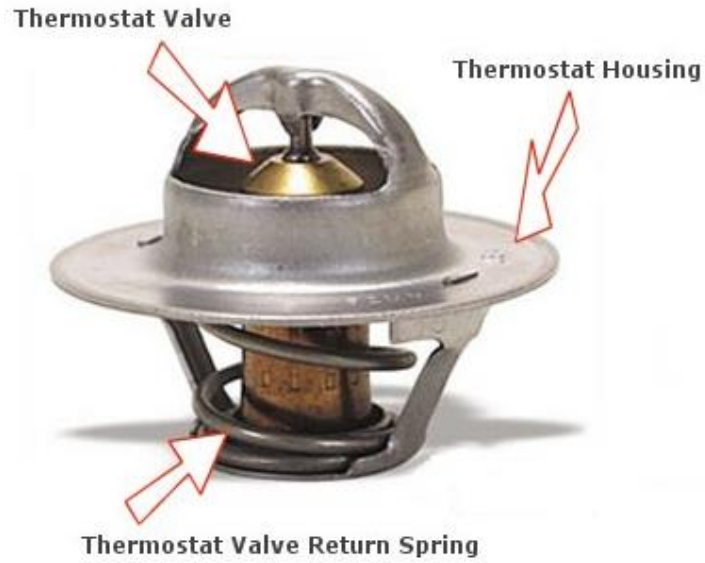

Fig. 4
- When the engine is started the thermostat is closed and the water will only circulate through the water jackets. Fig. 4 (next page) illustrates how the thermostat limits the water circulation to the water jackets by shutting off the water flow through the radiator when the temperature is low.
- When the engine has reached its normal operating temperature the thermostat will open and the water will start to flow through the radiator. Fig. 4 illustrates the circulation of the water through the radiator and the engine when the temperature of the engine rises, causing the thermostat to open.